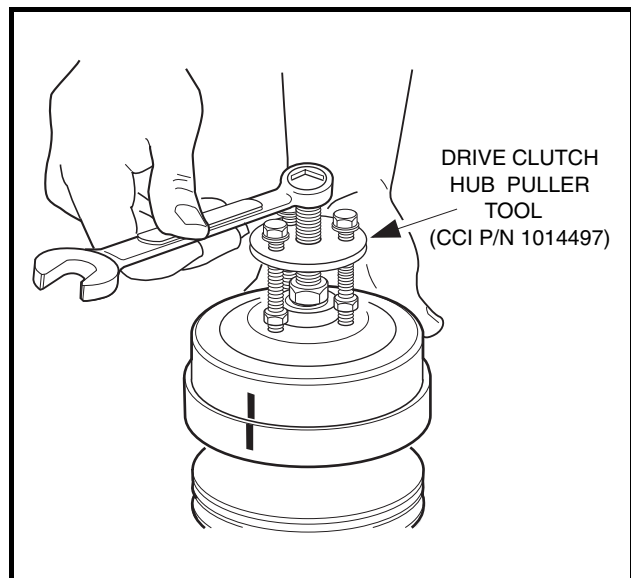

Figure 20-7 Remove Drive Clutch Hub
- 2.2. Thread the center bolt of the Drive Clutch Hub Puller (CCI P/N 1014497) into clutch until the stop nut touches the clutch, then back the bolt out one-half turn (Figure 20-7, Page 20-7).
- 2.3. Thread the three small bolts of the puller into corresponding holes in the clutch. Tighten bolts evenly, making sure the face of the puller plate is parallel to the face of the clutch (Figure 20-7, Page 20-7).